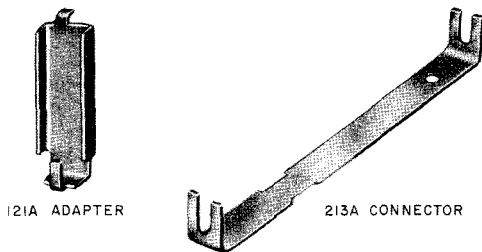

Fig. 77—121A Adapter and 213A Connector
13.02 The 98A (DA) protector can be converted to fuseless operation by adding two 121A adapters and two 213A connectors (Fig. 77) as follows: